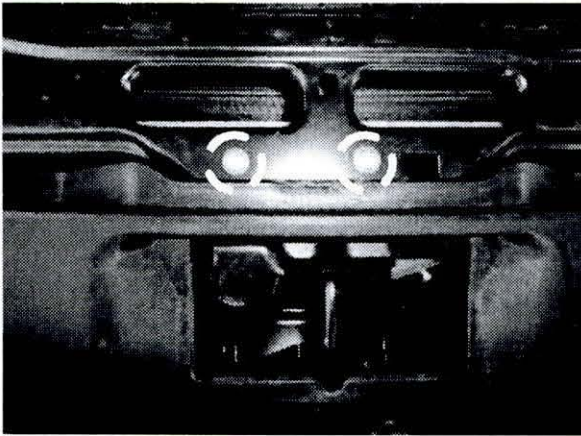

Figure 3
3. Retorque 4 bolts (Circled, Figures 3 and 4) of engine hood striker to: 10 Nm.